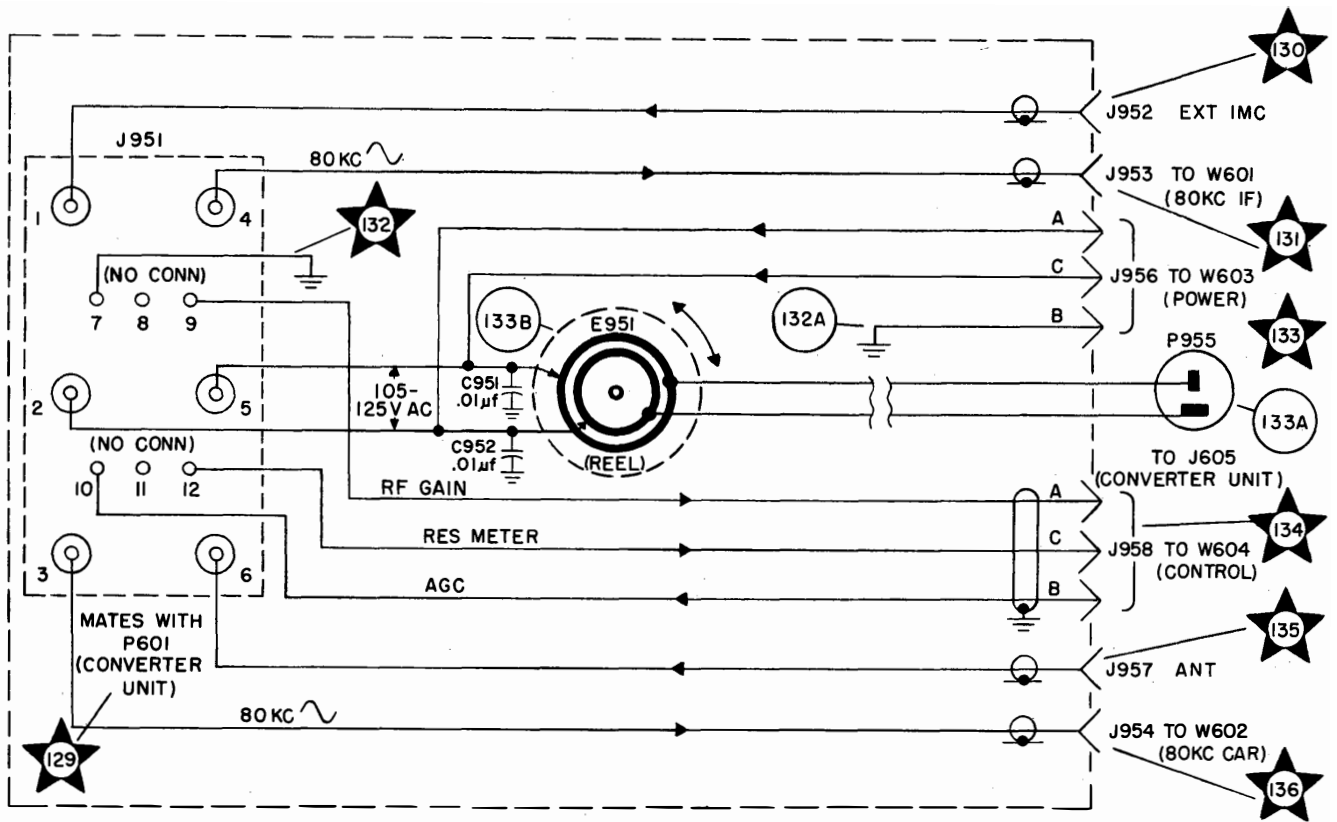

Figure 5-74. Converter Blister, Functional Schematic Diagram
*a. FUNCTION.*—The converter blister is a junction box for cable connections to and from the converter and between the converter and the demodulator. Faulty operation of its circuits will seriously impair, or fully disable, receiver operation. Figure 5-74 is a functional schematic diagram of the converter blister circuits.